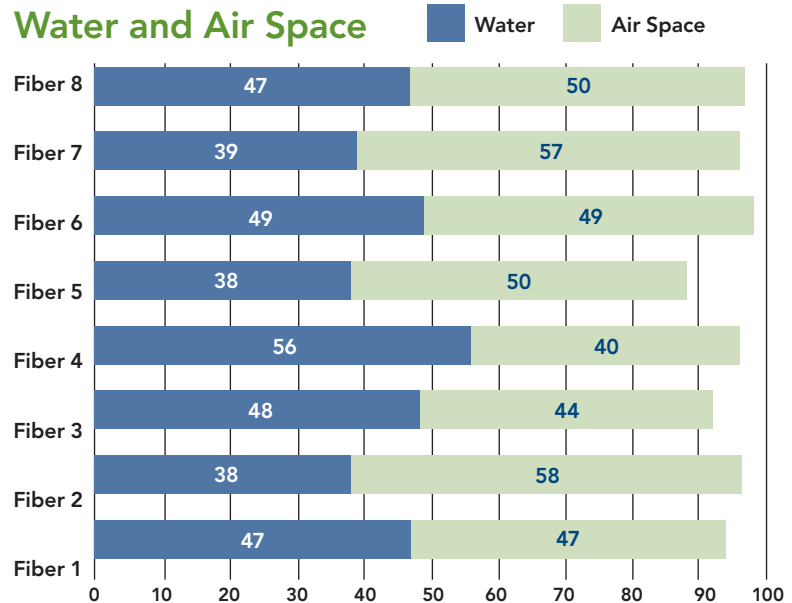

Figure 1. Physical properties of eight different commercial wood substrate components. All photos by Brian E. Jackson.
Particle size and shape play equally important, yet different, roles relative to the resulting air- and water-holding properties of a substrate. As part of an international wood fiber coalition project, various commercial wood fiber substrates were collected and analyzed for various physical properties at North Carolina (NC) State University (Figure 1). Evaluating the properties of wood materials by themselves is useful when